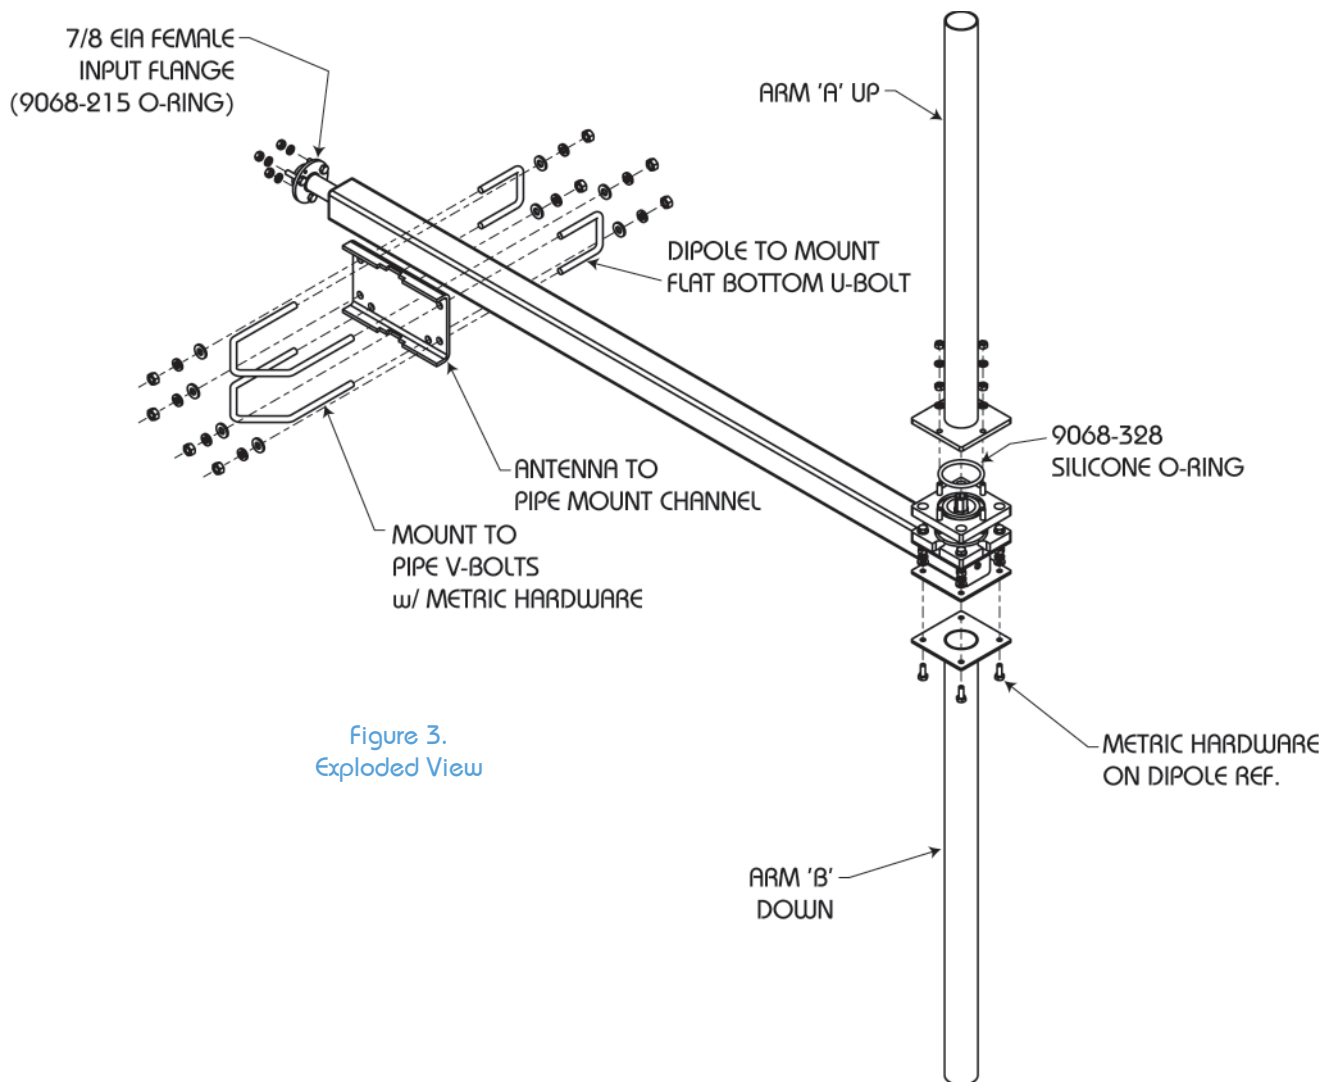

Figure 3.
- c. Assemble the antenna bay (Figure 3).